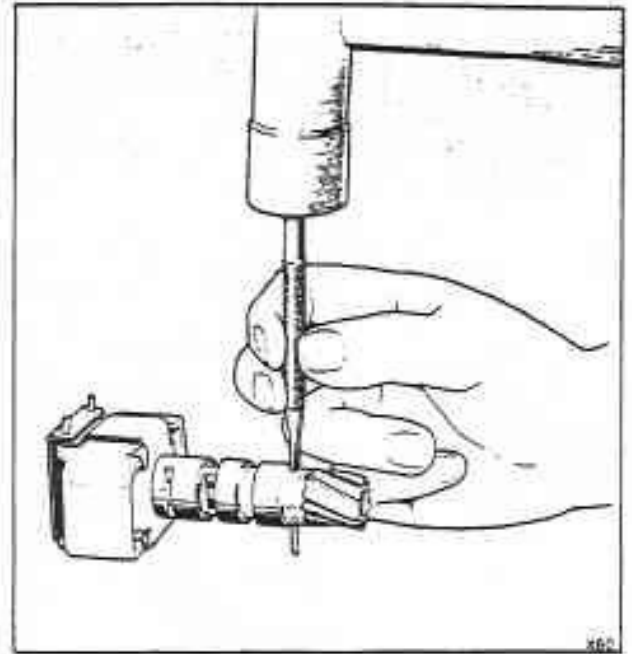

Fig. T9-7 Removing governor driven gear retaining pin
1. Drive out the gear retaining pin using a hammer and drift (see fig. T9-7).